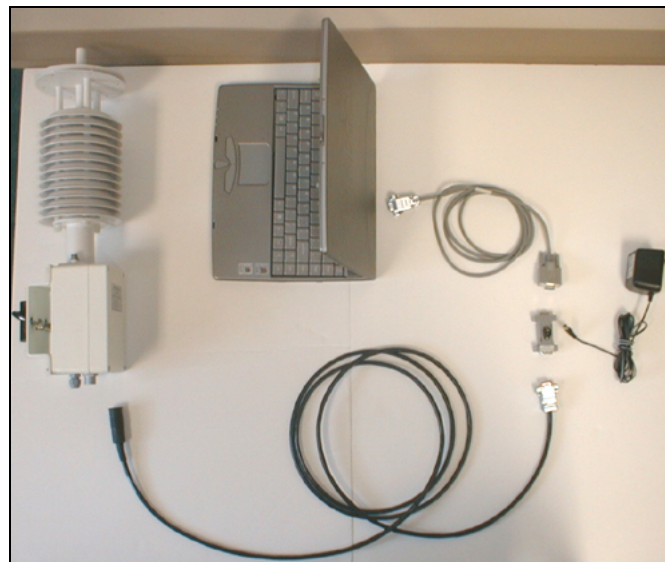

Figure 10. MET to PC Connection
1. Connect the MET station to a laptop computer via the MET station interface cable and the power breakout as in Figure 10. Since PCs are not equipped to power up a MET station, a power breakout must be used. The power breakout must be connected to the PC's serial port and plugged into the MET station RS-232 cable. If your MET station has LEDs, you should see the red power light ON. The power for the MET unit is +7 to 16 VDC.
4. If your instrument is powered up (see the LED) and DQI cannot detect your MET station, there is either a problem with the interface cable or the MET station. Please make sure to use the original MET station cable and power breakout (Part Number 1727-00X, X=1 for 110 VAC, X=2 for 220VAC) supplied by Paroscientific. If the problem continues, and you are sure you are not having a cabling problem, please contact us at (425) 883-8700 or at support@paroscientific.com.
5. If DQI detects your instrument, click on the “**OK**” button. You should now see the DQI “Configuration” screen. On this screen, click on the “**Start**” button to read the configuration parameters of MET station. Check the “Pressure Unit (UN)” parameter. Make sure that it is set to bar (factory default). If it is not in bar, click on the pressure unit field and select “**bar**”, then click on the “**OK**” button. Make sure that the pressure unit field is changed to “bar”.